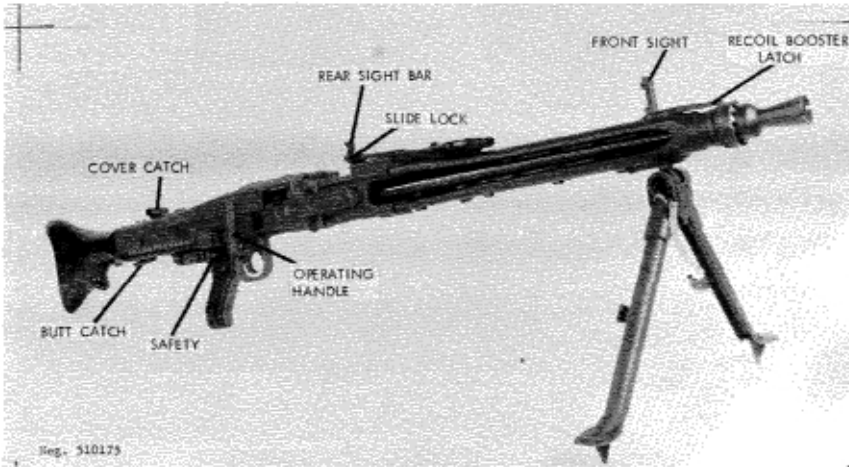
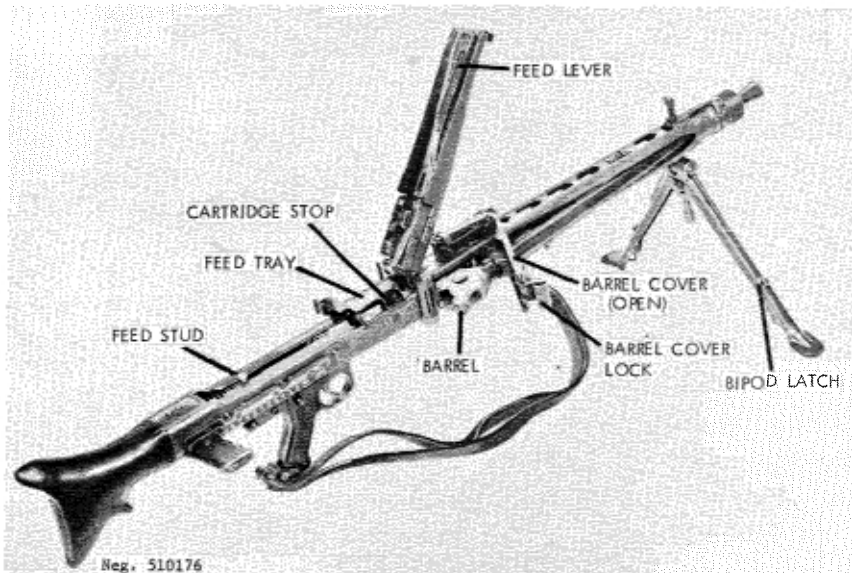
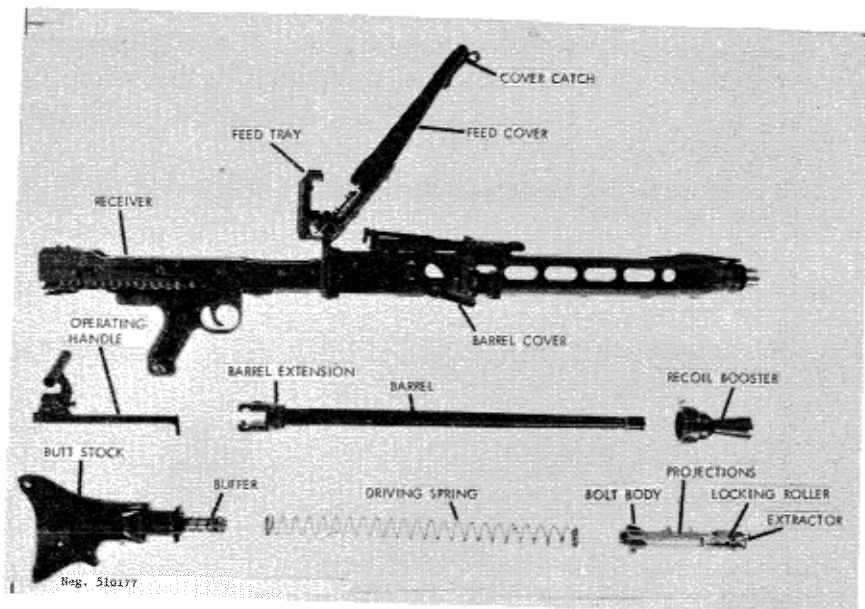
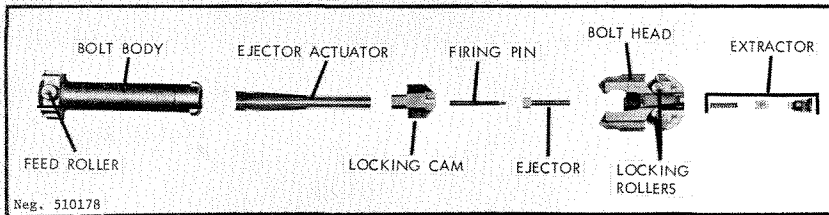

Figure 176. West German MG1 or MG3 machinegun.
Figure 177. MG 42, MG1, MG3 barrel change.
Figure 178. MG-1 disassembled.
Figure 179. MG-1 bolt.
b. The Rheinmetall gun is known either by its commercial designation of MG-42/59, or by the West German Military designation of MG-1 (fig 176). There are several variations of the MG-1. The original MG-1, in 7.62x51-mm NATO, was almost identical to the old MG-42; the MG-1A1, chambered for the
b. Grasp the operating handle (fig 176), pull it fully rearward, and then thrust it forward. This cocks the gun's mechanism. Press the safety (fig 176) fully to the left to lock the gun in its safe position.
d. If the feed belt does not have a feed tab, the cover must be opened. Press the cover catch (fig 176) forward and swing the cover up and forward. Place the belt so that the first cartridge rests against the stop (fig 177) in the feed tray and the belt or link is between the stop and inner rear edge of the feed tray. Close the cover. The barrel should be changed after each 150 rounds (three belt sections) of continuous fire. To change barrels, pull the operating handle to the rear. Push forward on the barrel-cover lock (fig 177) until the barrel cover swings out. The rear end of the barrel will be pulled out of the receiver, and it can then be easily removed to the rear. (CAUTION: The barrel may be hot.) Thrust a cool barrel into the jacket as far as it will go and close the barrel cover. Insure that the barrel cover lock is caught, push the operating handle forward, and resume fire.
b. Press the butt catch (fig 176) and rotate the butt while pushing it in against the force of the driving spring. The butt will disengage from the receiver; ease the butt away from the receiver. Pull the driving spring out of the receiver.
d. Pull the locking rollers (fig 178) to the side in the bolt head; then twist the bolt head counterclockwise until it is free of the bolt body. The ejector actuator, locking cam, and firing pin can now be removed from the disassembled bolt. Note: Some guns have a powerful spring housed in the bolt body; use care when twisting the bolt head.
e. Lift the recoil-booster latch (fig 176) and unscrew the recoil booster; thoroughly clean it of carbon and firing residue. Remove the barrel (para 160g) and thoroughly clean it. Reinstall the barrel, and screw the recoil booster back onto the front of the receiver.
f. To reassemble the gun, insert the flat end of the firing pin into the locking cam and place the locking cam into the bolt head. Slip the ejector into the bolt body. If the bolt has an internal spring and plunger, install these parts with the plunger toward the narrow end of the ejector actuator. Place the bolt head over the bolt body and twist the bolt head so that the extractor is in line with the double projections (fig 178) on the bolt body.
Insert the driving spring into the receiver and use the spring to push the bolt fully home. Slip the buffer (fig 178) into the driving spring. Hold the butt twisted to 90° and insert its threaded section into the receiver; rotate the butt until the butt catch snaps into place. Close the cover and press the safety to the left. Fold the bipod.
c. There is a locking roller (fig 179) on each side of the bolt head (fig 179); rails on the inside of the receiver hold the rollers in their inner position until the bolt head enters the barrel extension (fig 178). After the bolt head enters the barrel extension, the locking cam (fig 179) forces the locking rollers outward and into the locking recesses in the barrel extension. The firing pin is carried in the locking cam, and after the locking rollers are engaged with the barrel extension, the cam drives the firing pin into the primer of the cartridge and fires the cartridge.
h. The recoil and counterrecoil movement of the bolt operates the feed mechanism. A long, curved belt-feed lever, pivoted at the rear end of the cover, has a channel running along its length. This channel fits over a roller or stud at the top rear of the bolt carrier (fig 179). As the bolt moves rearward in recoil (in a straight line), the roller causes the front of the curved belt-feed lever to move sideways. The belt-feed lever, in turn, operates an intermediate feed lever; this lever (fig 177) fits into the belt-feed slide and moves the slide back and forth. A spring-loaded feed pawl, mounted on the slide, rides on the ammunition belt and feeds it into the gun. The cartridges are held in the feed tray's feed slot by a cartridge hold-down; this part also serves a pawl to hold the belt in the gun.